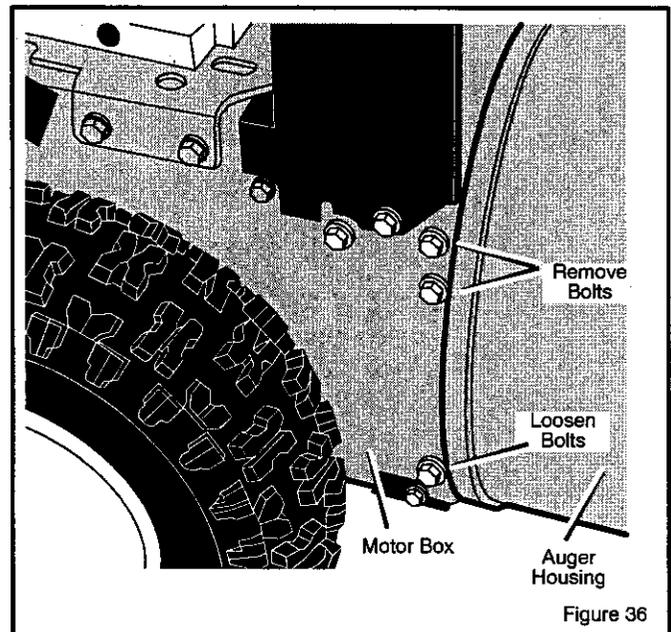

Figure 36
8. Remove the top four **bolts** that hold together the **auger housing** and the **motor box**. Loosen the bottom two **bolts**. The **auger housing** and the **motor box** can now be split apart for removal of the belt (see Figure 36).